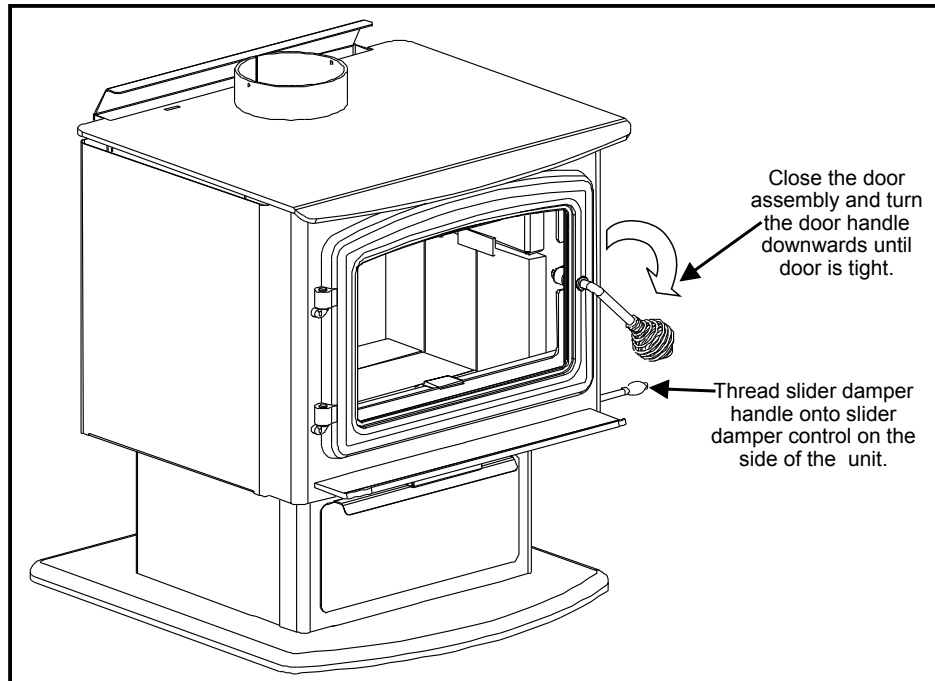

Figure 38: Closing Door.
3. Open and close the door, applying pressure down, to ensure the door assembly is properly seated on the hinges. Refer to Figure 38.